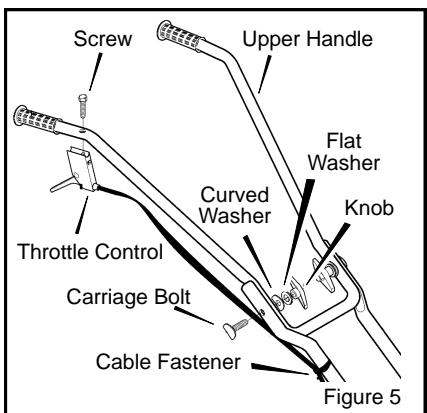

Figure 5
7. Remove the fasteners from the **upper handle** (see Figure 5).
11. Mount the **throttle control** on the right side of the **upper handle** with the **screw** as shown in Figure 5.